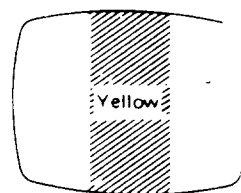

Figure 2
- (1) Produce a yellow raster by short-circuiting the base and emitter of Q6B2 (B-OUT) with a short lead. (Another method; Primary color pattern signal can be generated by compatible computer)
- (2) With the deflection yoke positioned fully forward, adjust the purity magnet so that the yellow bar is at the center of the screen with normal vertical centering.
- (3) Slide the deflection yoke slowly backwards to produce a uniform yellow raster (Figure 2).
- (4) Produce the primary color rasters – red, green and blue – and make sure no contamination is observed for each color.